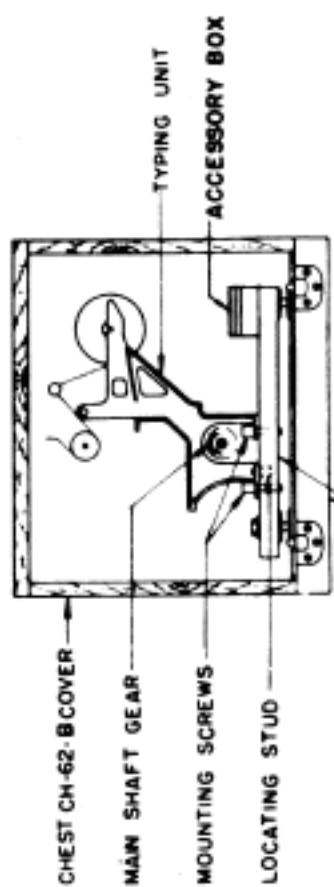

FIGURE 4.
2. REMOVE PLATEN CRANK FROM PLATEN SHAFT AND PLACE IN ACCESSORY BOX ON CHEST CH-62-B BASE SHOWN IN FIGURE 4. ALSO REMOVE THE FOUR MOUNTING SCREWS AND WRENCH FROM THE BOX.
4. PLACE TYPING UNIT ON CHEST CH-62-B BASE AS SHOWN IN FIGURE 4 AND INSTALL THE FOUR MOUNTING SCREWS. TIGHTEN MOUNTING SCREWS WITH WRENCH AND REPLACE WRENCH IN ACCESSORY BOX.